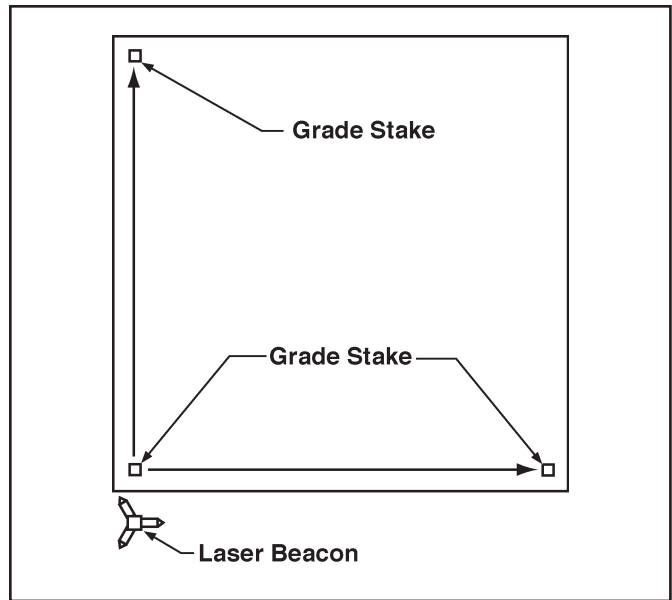

Figure 23. Method Two: Align Rotating Laser with Grade Stakes
2. Place the Rotating Laser a few feet (meters) behind the first grade stake and in line with one of the far grade stakes (It is not critical to align the Rotating Laser exactly) (Refer to Figure 23).